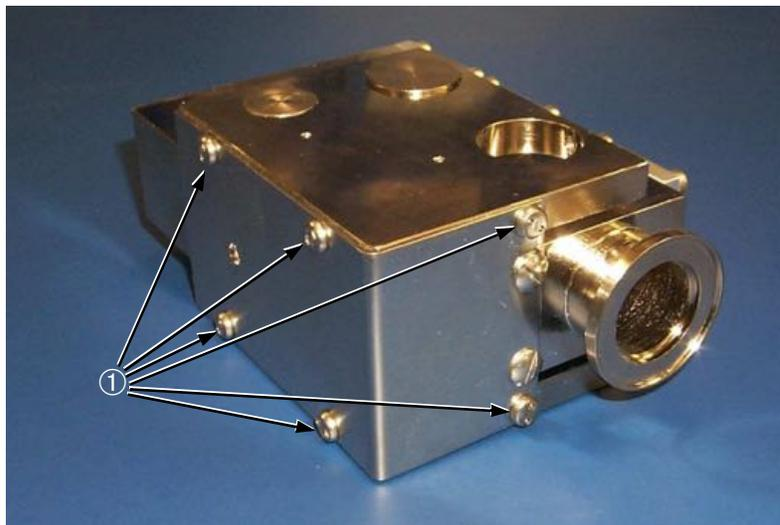

Figure 5-3 Magnet Body Bracket Screws
Do not remove the 6 magnet body bracket screws ① shown in Figure 5-3 while performing maintenance on the spectrometer tube.